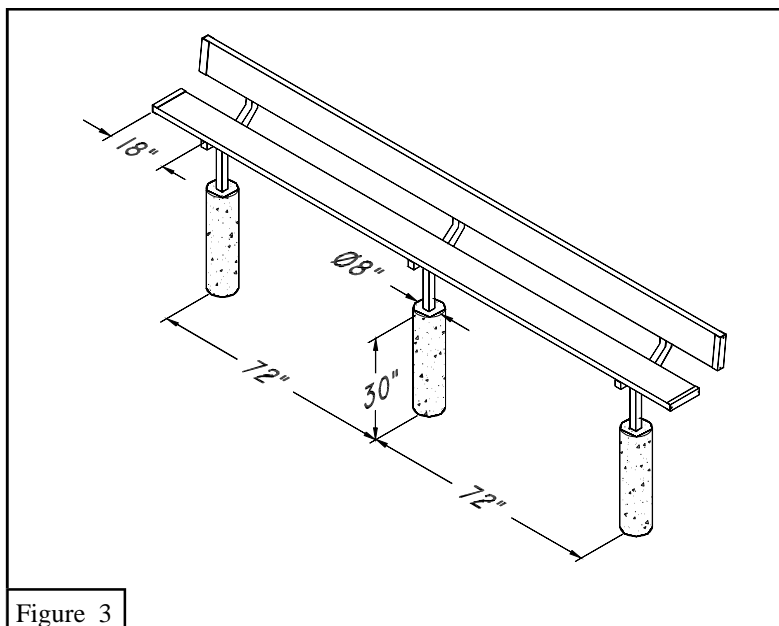

Figure 3
4. Locate and dig three 8" diameter holes 30" deep and 72" apart from center to center. See Figure 3.